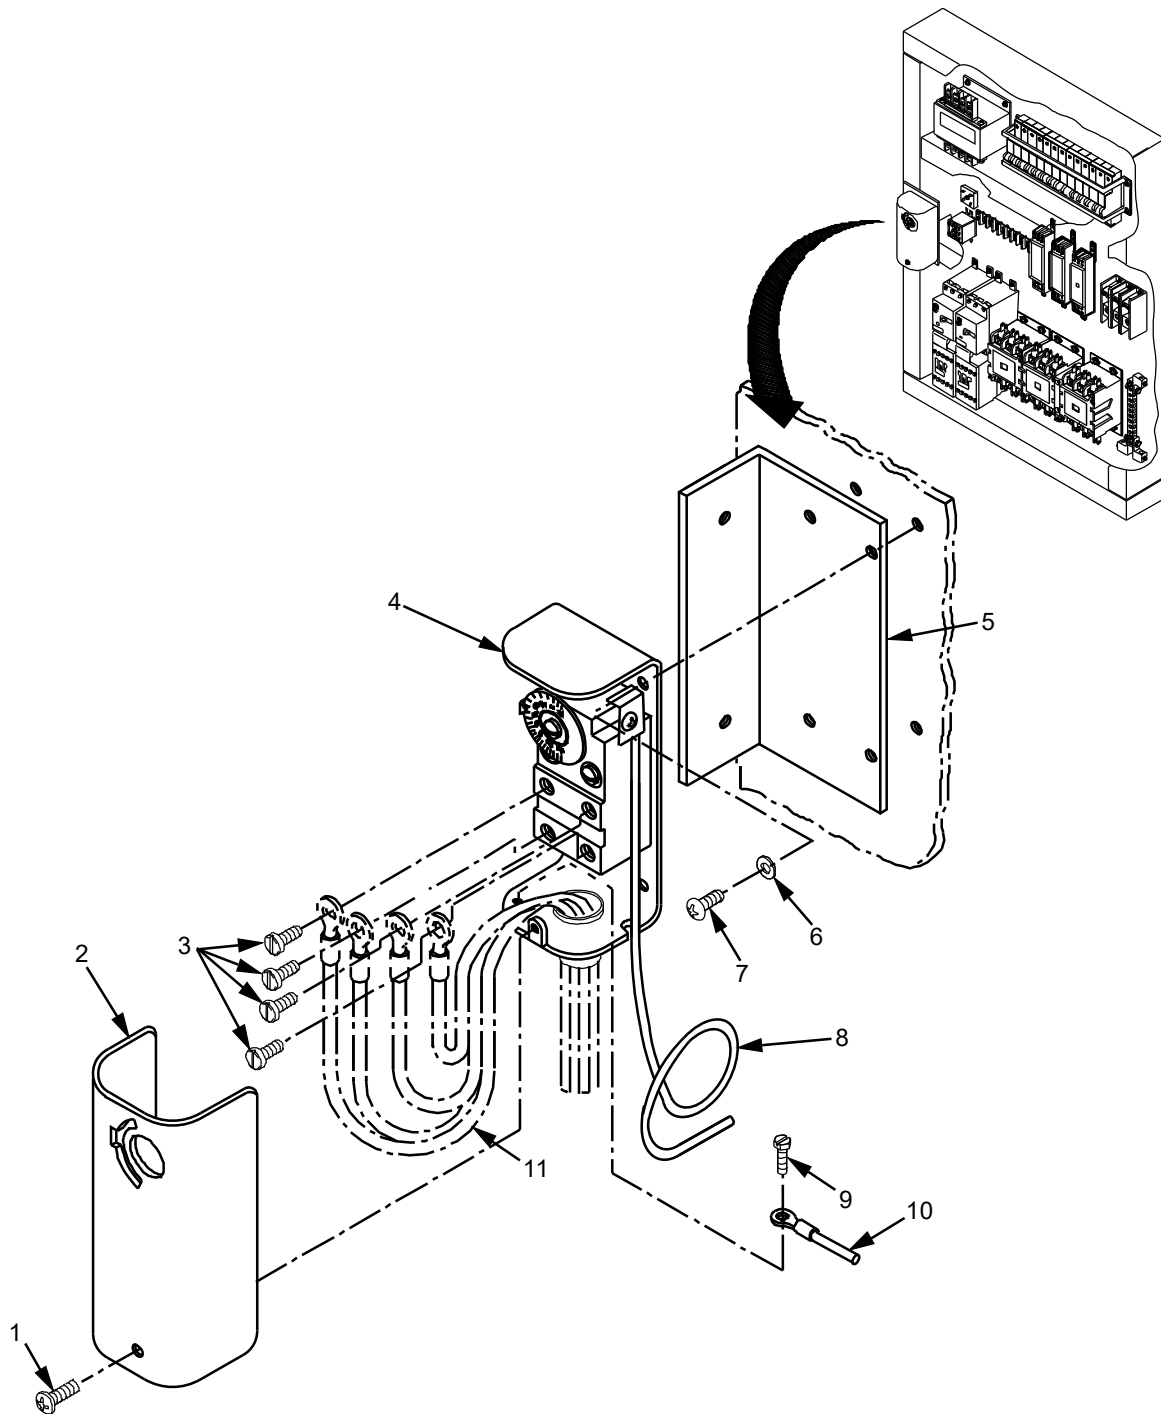

Figure 1. ECU Thermostat Replace.
Prior to performing the following steps, inspect condenser coils (Figure 1, Item 4). If necessary, perform cleaning procedure as described in this WP. If the condenser coils are damaged, contact your superior.
3. Remove and retain screw (Figure 1, Item 1) and cover (Figure 1, Item 2) from thermostat assembly (Figure 1, Item 4).
4. Verify that all electrical wires (Figure 1, Item 11) connected to thermostat (Figure 1, Item 4) are properly identified.
5. Remove and retain four terminal screws (Figure 1, Item 3) from thermostat (Figure 1, Item 4) and disconnect electrical wires (Figure 1, Item 11). Loosely install terminal screws (Figure 1, Item 3) back onto thermostat (Figure 1, Item 4).
6. Remove and retain ground terminal screw (Figure 1, Item 9) from thermostat (Figure 1, Item 4) and disconnect ground wire (Figure 1, Item 10). Loosely install ground terminal screw (Figure 1, Item 9) back into thermostat (Figure 1, Item 4).
7. Remove and retain four screws (Figure 1, Item 7) and washers (Figure 1, Item 6) that secure thermostat (Figure 1, Item 4) to mounting bracket (Figure 1, Item 5).
8. Cut sensor wire (Figure 1, Item 8) at bottom of thermostat (Figure 1, Item 4) and remove thermostat.
9. Follow sensor wire (Figure 1, Item 8) through ECU, removing all strap ties and silicon sealant where applicable.
10. Carefully pull sensor wire (Figure 1, Item 8) through all ECU openings back thru control panel and properly discard.
1. Install thermostat (Figure 1, Item 4) with sensor wire (Figure 1, Item 8) into control panel and secure using four screws (Figure 1, Item 7) and flat washers (Figure 1, Item 6).
2. If necessary, straighten out sensor wire (Figure 1, Item 8) and begin feeding through control panel and associated ECU feed throughs.
3. Continue feeding sensor wire (Figure 1, Item 8) through ECU around evaporator chamber and blower chamber following same path sensor wire (Figure 1, Item 8) took when being removed.
4. Once sensor wire (Figure 1, Item 8) has been installed, wrap any remaining sensor wire (Figure 1, Item 8) around itself to temporarily secure in place.
5. Where applicable, strap tie sensor wire (Figure 1, Item 8) and apply silicone sealant to openings.
6. Connect electrical wires (Figure 1, Item 11) to thermostat (Figure 1, Item 4) using four terminal screws (Figure 1, Item 3).
7. Connect ground wire (Figure 1, Item 10) to thermostat (Figure 1, Item 4) using ground terminal screw (Figure 1, Item 9).
8. Mount cover (Figure 1, Item 2) onto thermostat assembly (Figure 1, Item 4) and secure with screw (Figure 1, Item 1).